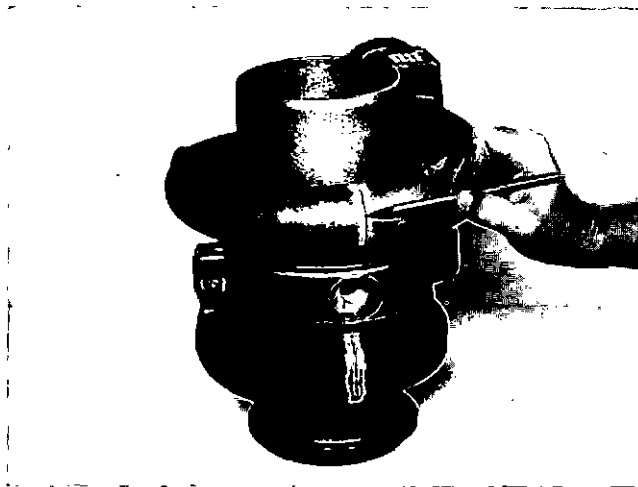

Fig. 4-1, (T465053). Mark the components before disassembly
1. Before disassembly of the turbocharger, mark the compressor, turbine and bearing housings to help in alignment during assembly, Fig. 4-1.